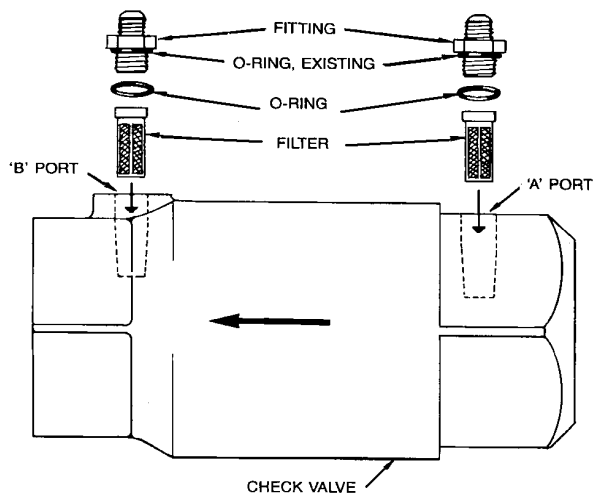

Figure 8. Check Valve Assembly with Filters
3. Remove the flexible fuel line from port “B” on the controller and check valve [Figure 8 on page 27].
2. Remove the flexible fuel line from ports A (if present) and B on the check valve [Figure 8].